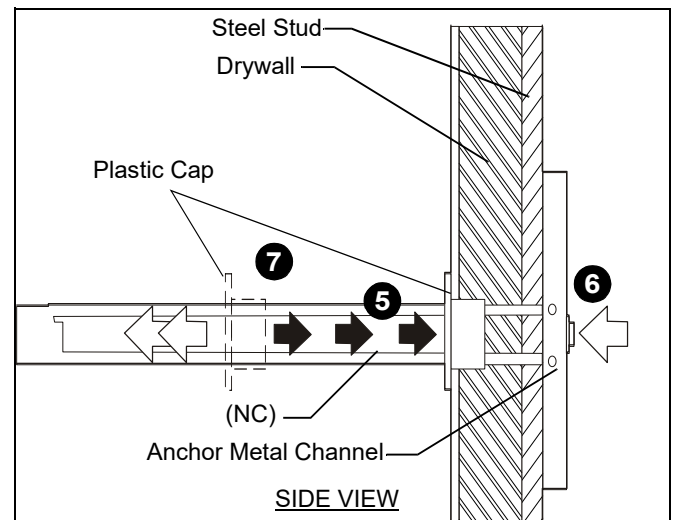

Figure 3
5. Slide anchors (NC) into drilled holes. (See Figure 3)
6. Holding plastic straps on anchor (NC), pull anchor away from wall until channel rests flush behind wall making sure anchor channel is positioned vertically on stud. (See Figure 3)
7. Slide plastic cap on anchor (NC) towards wall until flange of cap is flush with wall. (See Figure 3)